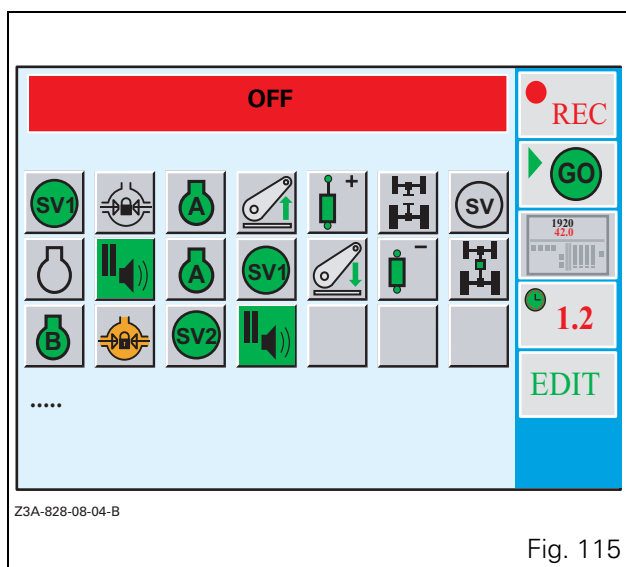

Fig. 115
- Press the key «₆ (Stop) to terminate the sequence. A pause is automatically inserted and a new window is displayed (Fig. 115).
When the window (Fig. 115) is open, the sequence is not active. An action can be deleted, modified or inserted. For this purpose: